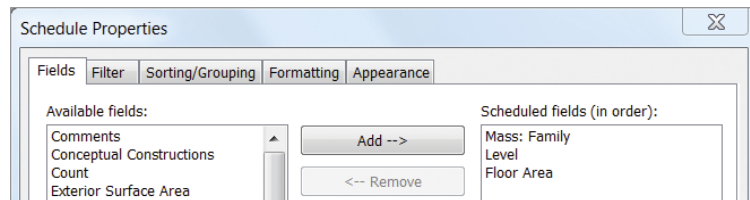

FIGURE 7.7 The list of Mass Floor parameters
5. In the Schedule Properties dialog, in the Fields tab, choose the following parameters from the list on the left; then click the Add button. Add them in this order: Mass: Family, Level, Floor Area (see Figure 7.7).